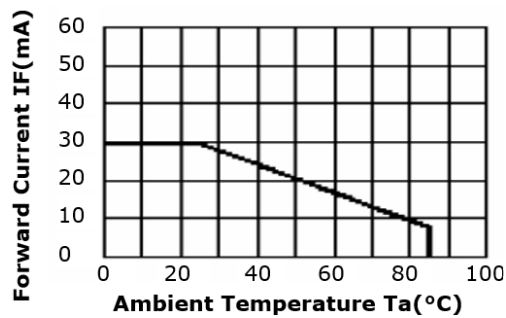

Figure 1 - Forward Current vs Ambient Temperature
- The forward current versus ambient temperature characteristics shown in Figure 1 are specified per LED string.